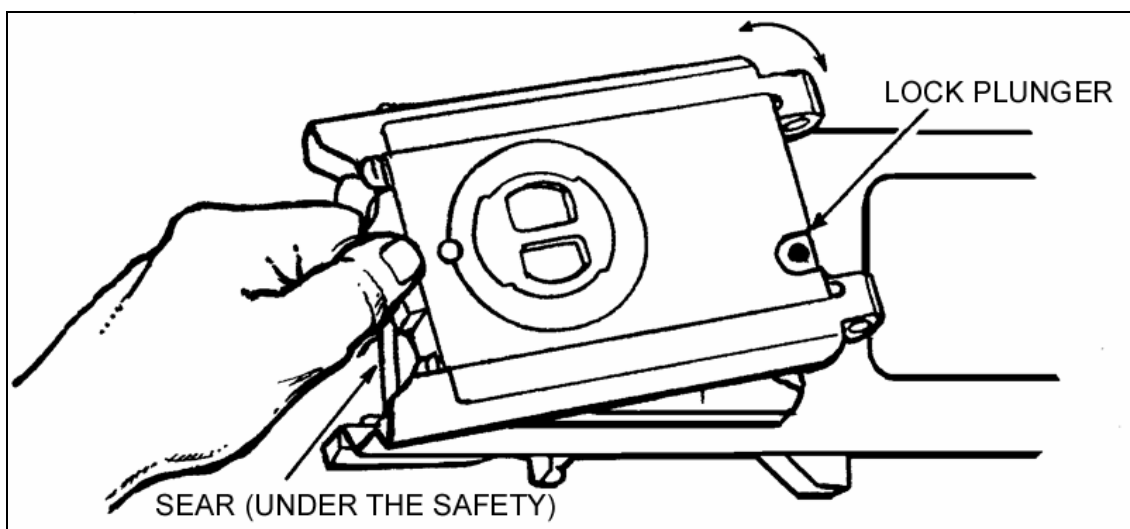

Figure 2-22. Sear assembly.
- (11) Take off the sear assembly by following these procedures:
- (c) At the same time, squeeze the sear and rotate the sear assembly (left or right) until you can no longer hold the sear (Figure 2-22).